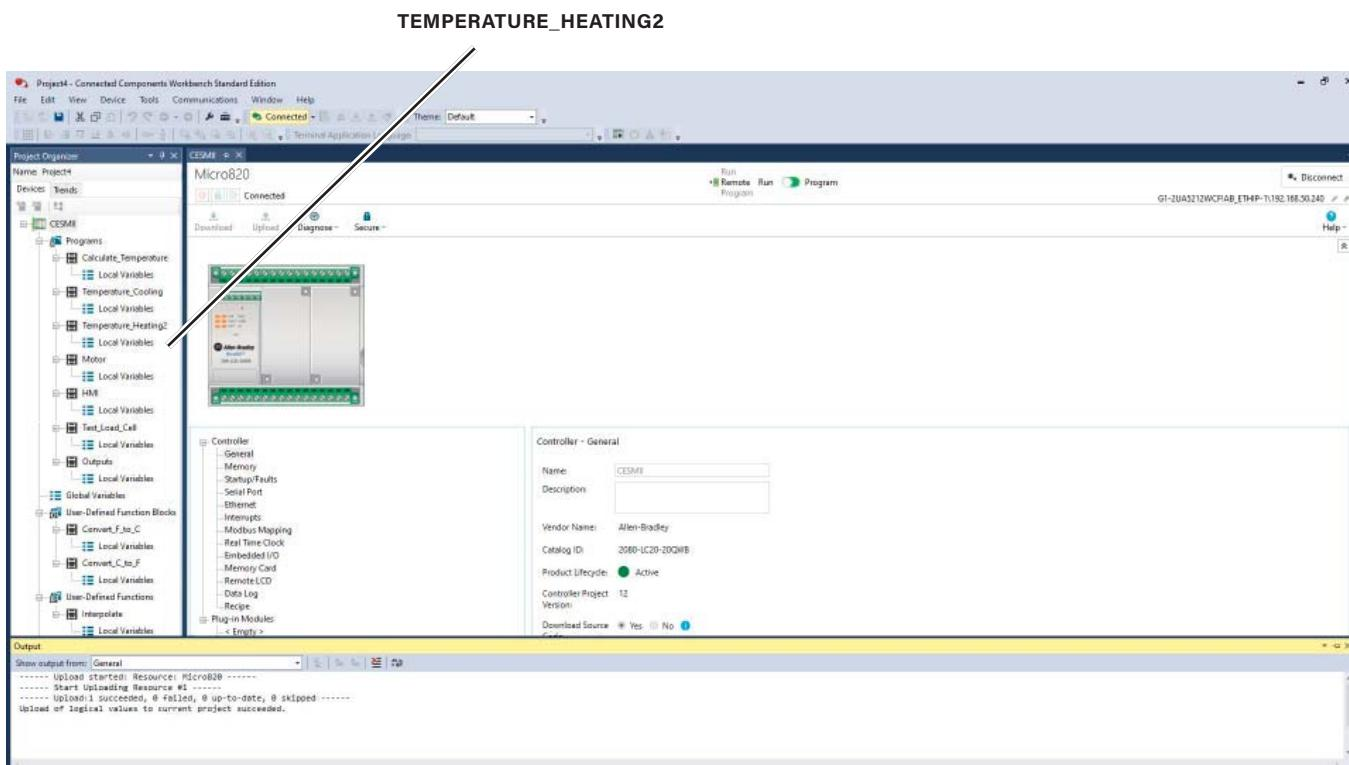

Figure 3-15. CCW with CESMII Program
- A. Double-click on **Temperature_Heating2**, located at the top of the devices tree on the lefthand side, as shown in figure 3-15.